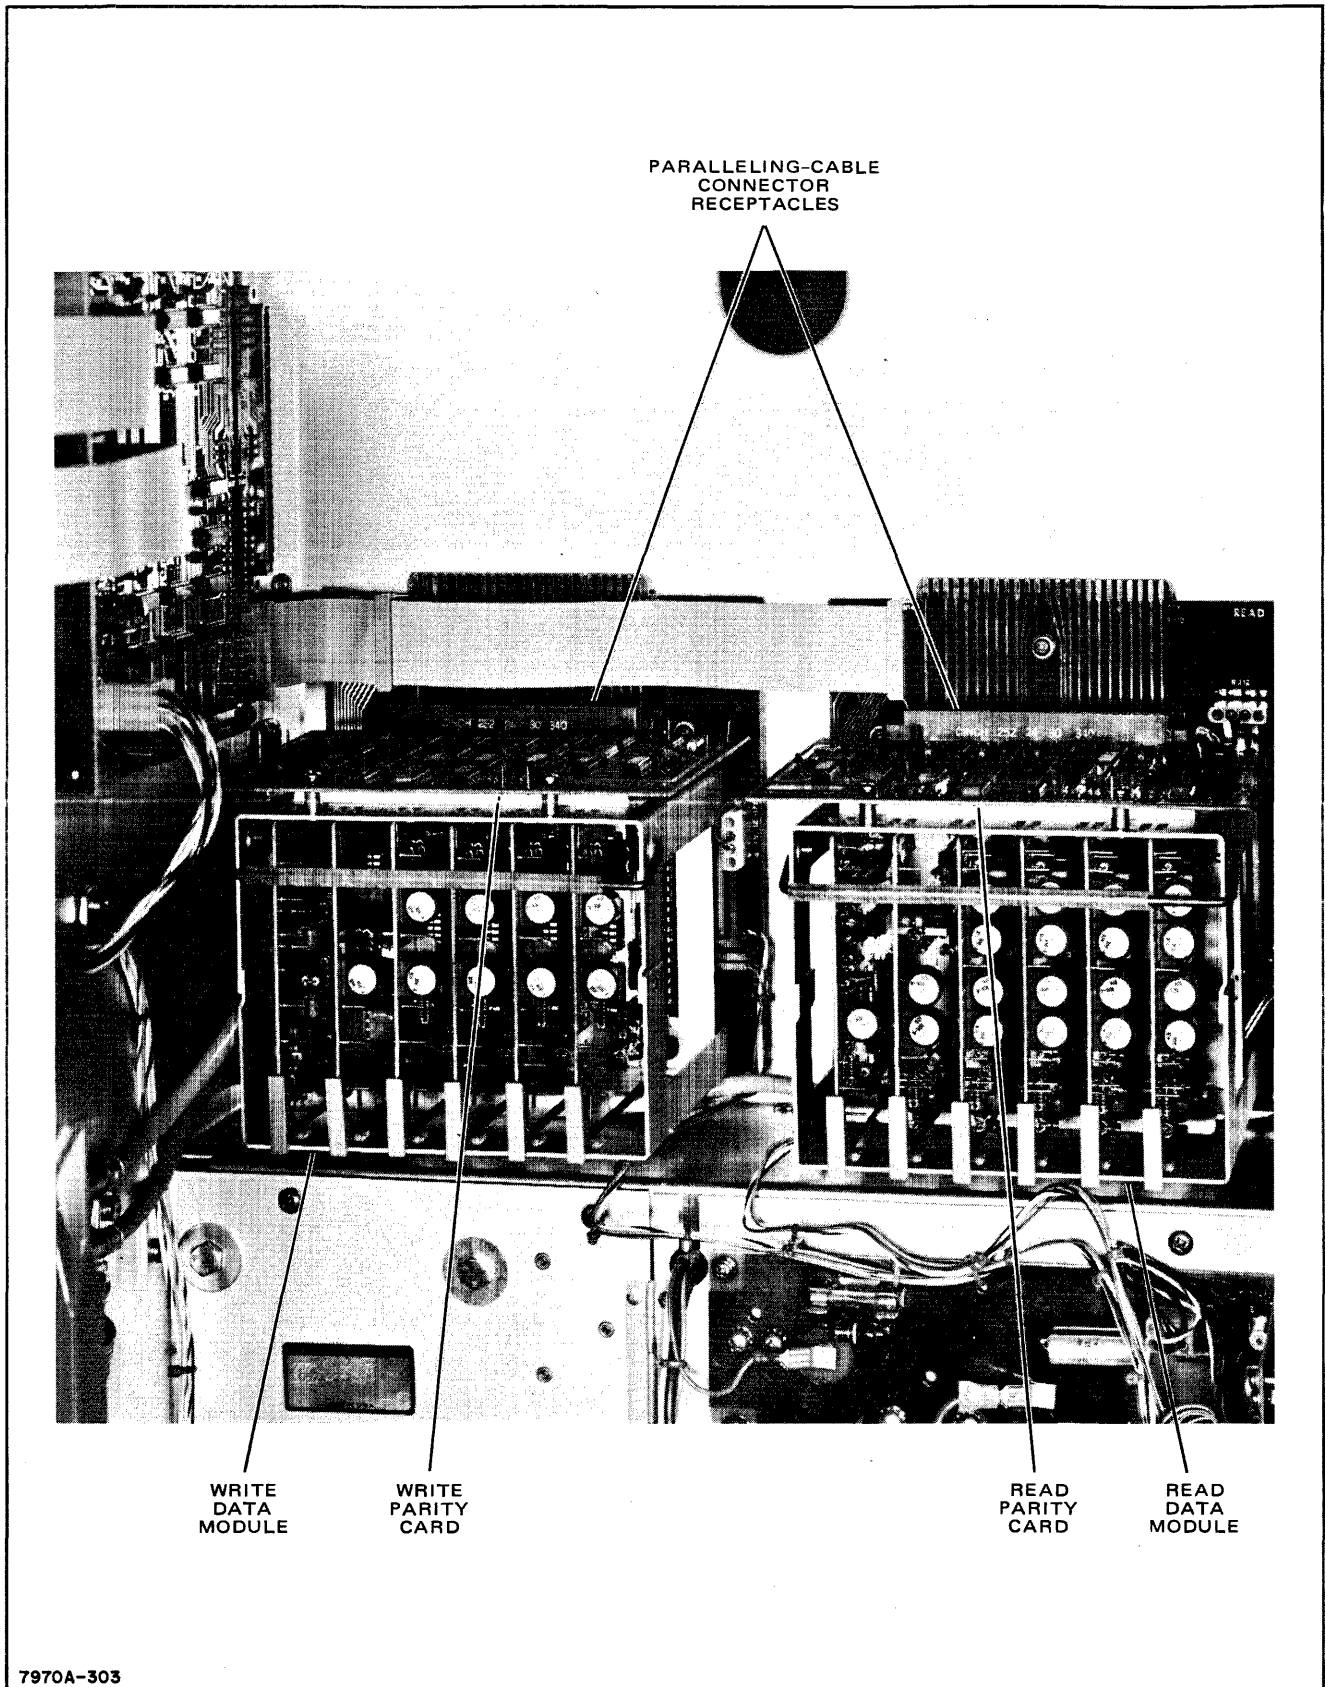

Figure 2-1. Read/Write Card Locations
c. Insert cards and power plugs in appropriate connectors (figure 2-1).